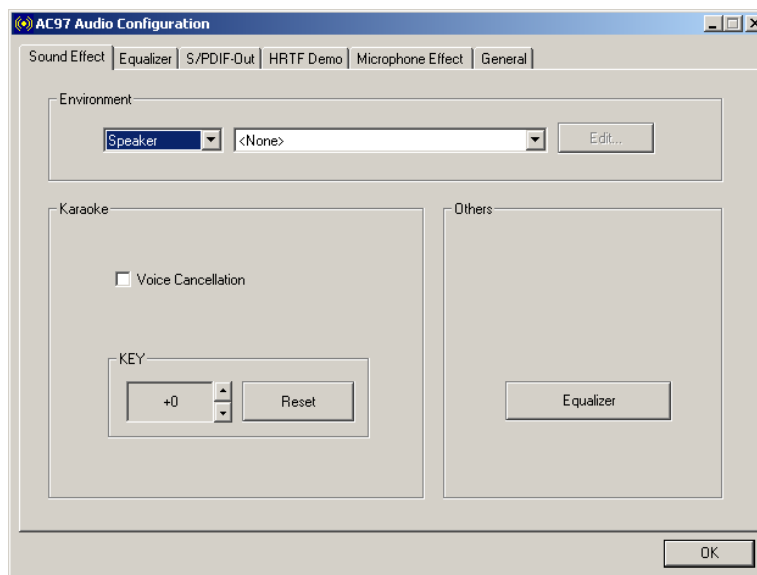

Figure H-3: Sound Effects Manager
Step 3: The sound effect manager appears (**Figure H-3**).
The Sound Effect Manager shown in **Figure H-3** is for the Realtek ALC655 audio Codec. Different Codecs may have different sound manager appearances.
The **Sound Effects Manager** enables configuration of the items listed below. To configure these items click the corresponding menu tab in the **Sound Effects Manager** (Figure H-3).